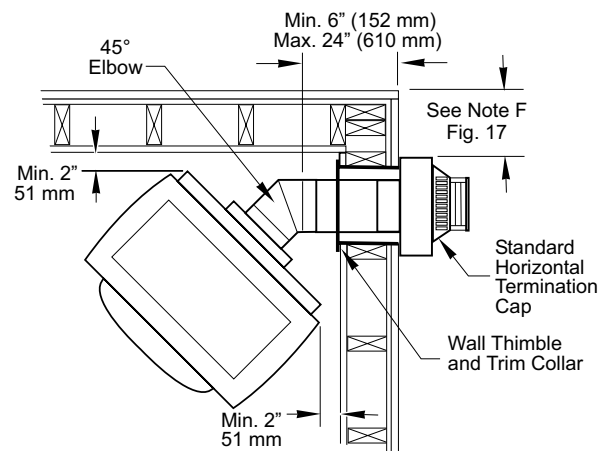

Figure 12. Corner Installation, Horizontal Termination directly off rear. Maximum Horizontal run is 2 ft. (610 mm).
- **Corner Installation:** Max. Horizontal Run is 2 ft. (610 mm). See Fig. 12.